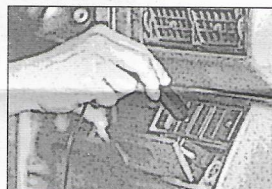

Fig. 3
2. Plug power cord into cigarette lighter receptacle.(Fig.3) Then set compressor on/off switch to "on" position.
4. Plug power cord into cigarette lighter receptacle (Fig. 3). Turn on switch.